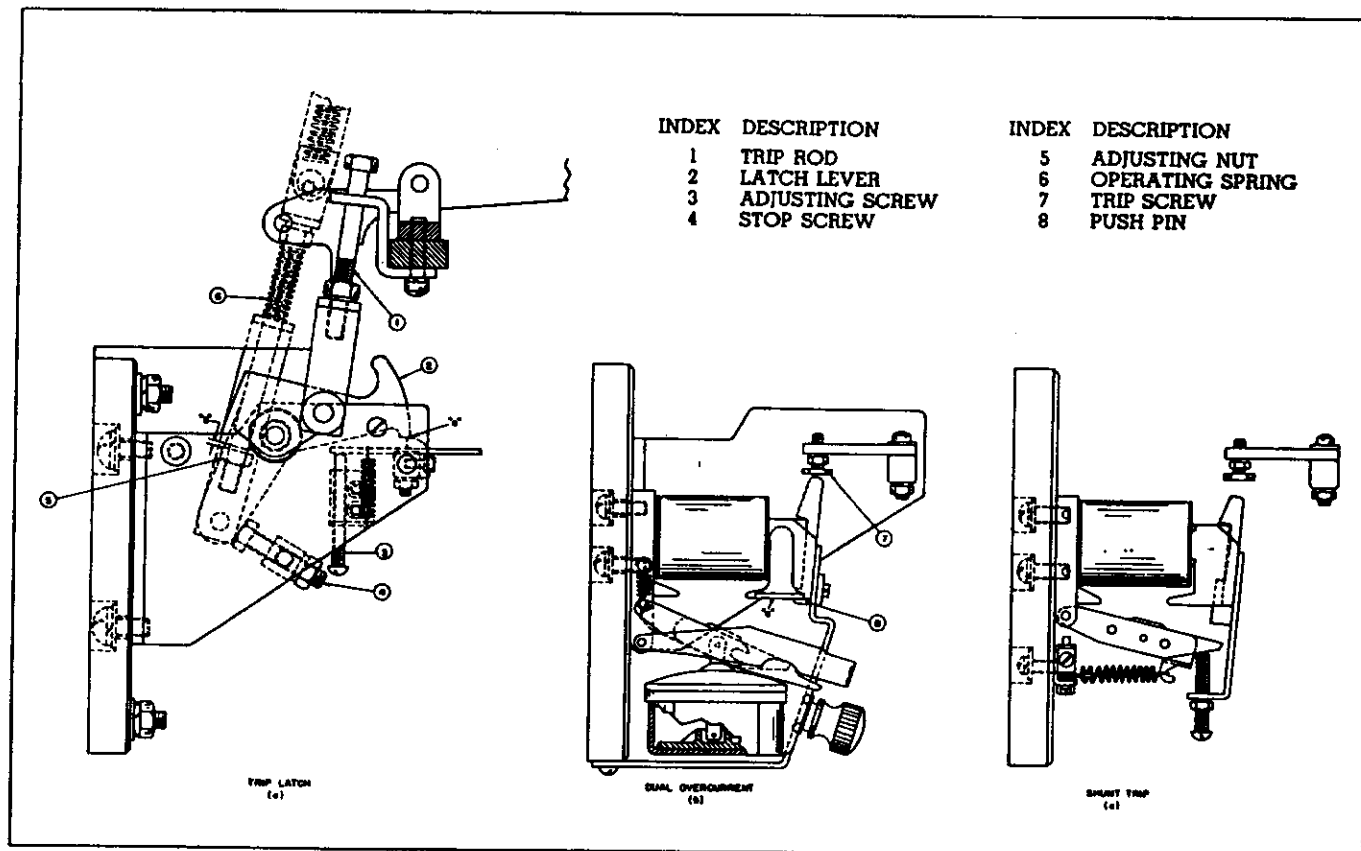

Fig. 6—TRANSFORMER OVERCURRENT TRIP FOR TYPE LG CIRCUIT BREAKERS
The transformer overcurrent trip device shown in Fig. 6 may be either instantaneous, or dual trip types. This device is standard on a-c breakers above 3000 ampere capacity and is actuated by the secondaries of current transformers usually installed on the load side rear of the circuit breaker. These devices are used for direct tripping of circuit breaker where relatively small power is required, or where a spring trip is used to disengage the circuit breaker latch. An adjustment is provided for changing the armature air gap so that the tripping currents may be varied over a 100 to 200 percent range. The armature is provided with an adjustable device for delaying the tripping action on momentary overcurrents.
The Dual Overcurrent Trip as shown in Fig. 6 (b) consists of a horizontal magnet core extending from its panel and is surrounded by a coil which is connected to a current transformer located back of the breaker panel.
**Latch Trip Adjustments.** With the circuit breaker closed, adjust screw (3) Fig. 6 (a) so that the breaker just trips, then back out screw  $1\frac{1}{4}$  turns.
Set trip screw (7) Fig. 6 (b) so that breaker will trip with 0.015 inch feeler and not trip with 0.025 inch feeler at point "c" for instantaneous armature overtravel. After making instantaneous trip adjustments check tripping travel of push pin for time delay.
Operating spring (6) Fig. 6 (a) must be used as supplied and should not be altered.